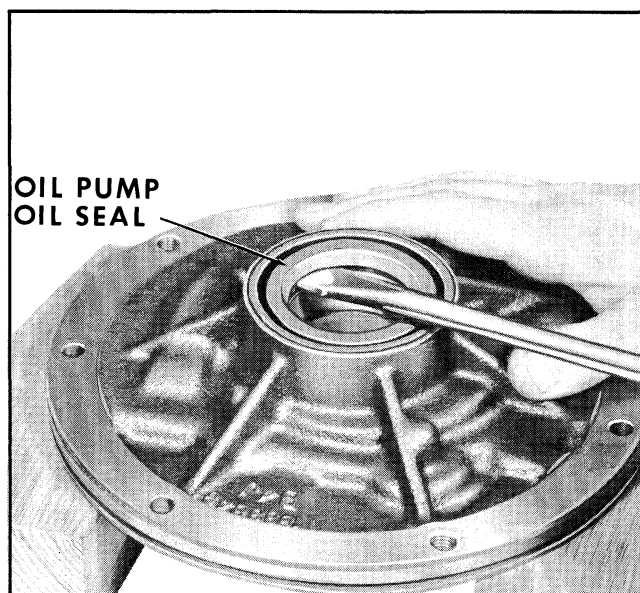

Fig. 7B-104 Removing Oil Pump Oil Seal
9. Remove oil pump seal with a small pry bar and discard seal (Fig. 7B-104).